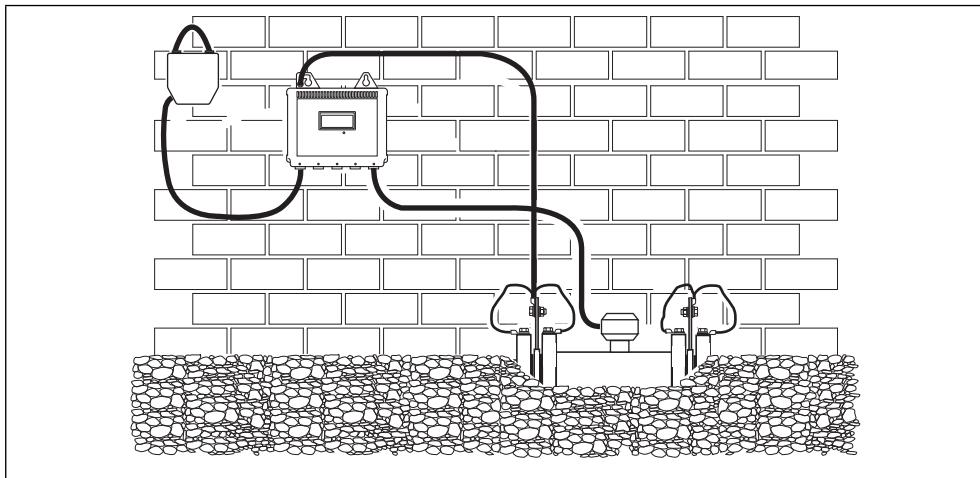

Fig. 3.5 AquaMaster 3 Transmitter Mounted in a Chamber (Battery Version Shown)
- see Figs. 3.5 (page 11) and 3.6 (page 11).